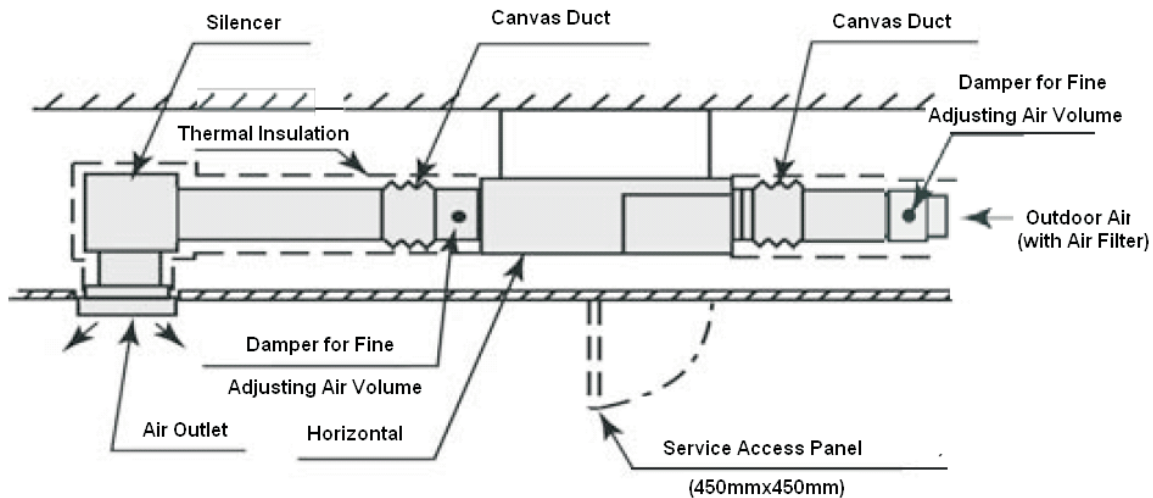

Fig. 4.6 Duct Connection
- (1) The supply duct should be connected with the indoor unit through canvas ducts, in order to avoid abnormal sound vibration (Refer to Fig. 4.6). The unit is equipped with a pre-drilled duct flange for the supply duct connection.
- (2) Attach the vibration proof rubber to Sling Bolt in order to avoid abnormal sound vibration.
- (3) Duct material should be non-flammable material.
- (4) Perform the heat insulation work over the duct for dew protection.